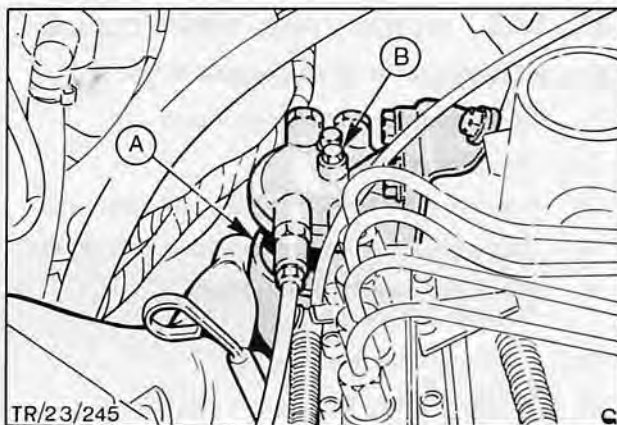

Fig. 72. Filter element removal
3. Remove the centre securing bolt and detach element, Fig. 72.